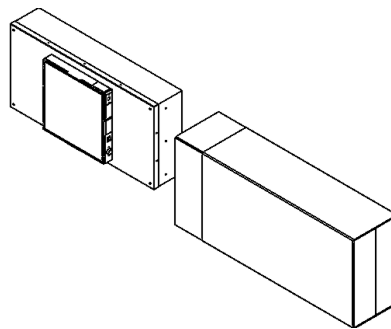

Figure 1: Unboxing
Step 1. Carefully remove the unit from the shipping carton and inspect for any damage that may have occurred during transportation. (See Figure 1.)